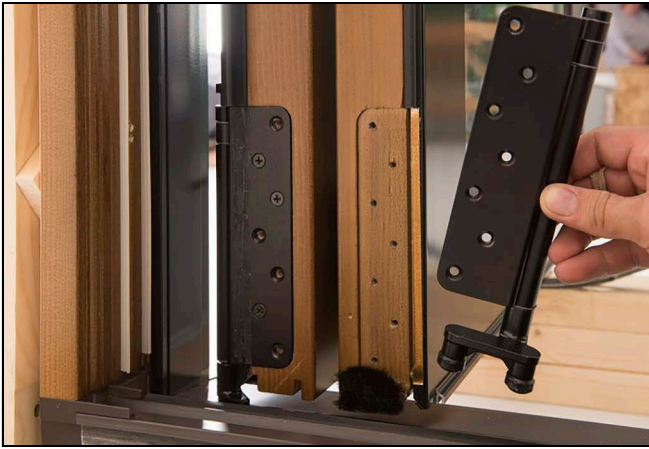

Figure 63
5. Attach the intermediate and end hangers (hinges 3, r, and 5) if applicable to your configuration. See Figure 62 and Figure 63.